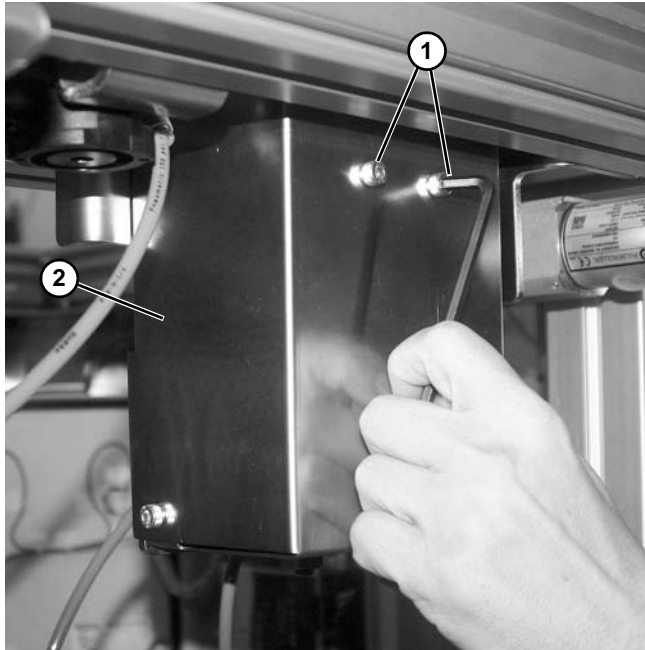

Figure 17
1. For pallet sizes under 240 x 240, remove two screws (Figure 17, item 1) that secure cylinder guard (Figure 17, item 2) over cylinder assembly.